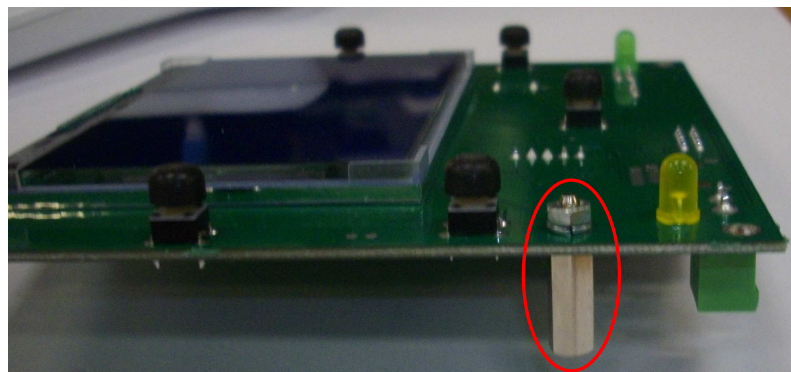

Figure 6-15
3. Assemble the hexagonal spacer on the CPU board A2 (component side) as shown in Figure 6-15 and Figure 6-16.